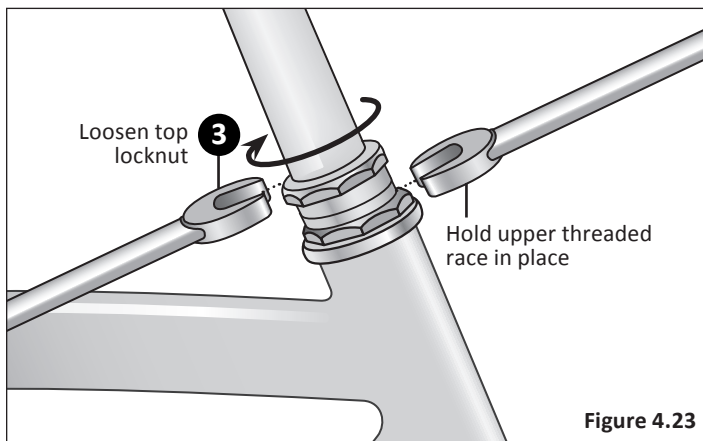

Figure 4.23
- 3 With the front wheel resting on the ground, use an adjustable, or headset wrench and hold the upper threaded race in place. **Figure 4.23**